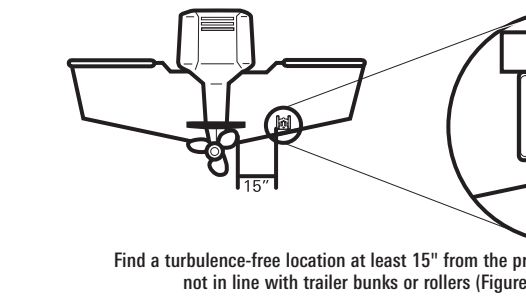

Figure 16
- As the boat moves through the water, turbulence is generated by the weight of the boat and the thrust of the propeller(s) — either clockwise or counter-clockwise. This turbulent water is normally confined to areas immediately aft of ribs, strakes or rows of rivets on the bottom of the boat, and in the immediate area of the propeller(s). Clockwise propellers create more turbulence on the port side. On outboard or inboard/outboard boats, it is best to locate the transducer at least 15" to the side of the propeller(s) (Figure 16).